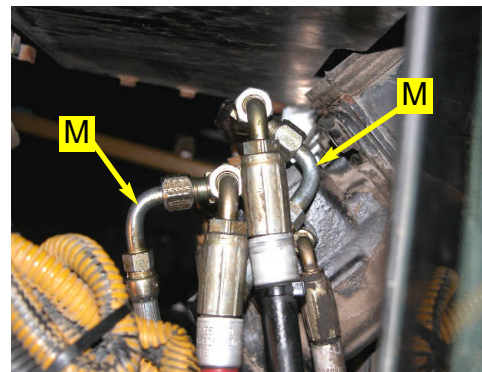

Figure 6a. Steering output hoses.
- a. Route the provided steering output hoses (**M**) from the **A** and **B** ports of the Automated Steering Block to the run-tee fittings (**H**) on the steering orbital. The hose end with the elbow will attach to the branch of the run tee. (Figure 6a. and 6b.)